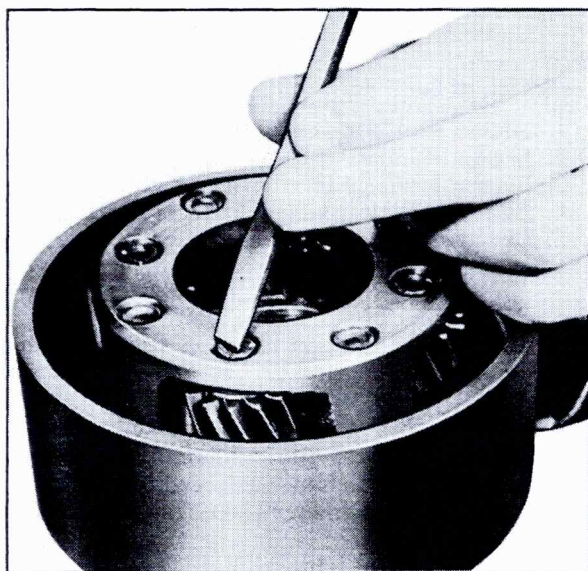

Fig. 7-98 Staking Pinion Pin
10. Using a punch in bench vise for an anvil, stake opposite end of pinion pin in three places with a blunt radius chisel, Fig. 7-98.